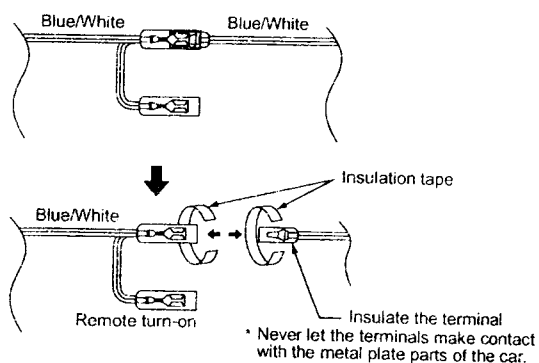

Figure 3
4. When an ex-lead is required in the Extension cable type wiring procedure, disconnect the auto antenna leads (BLUE/WHITE). Be sure to insulate both the ISO connector side terminal and the main unit side terminal with insulation tape, respectively. (Figure 3)